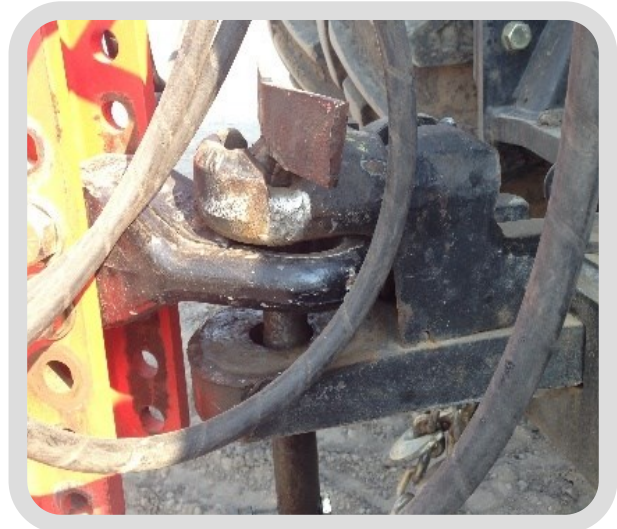

FIGURE 1
- Move the tractor into position where the pin can be inserted into the draw bar hitch (fig. 1).